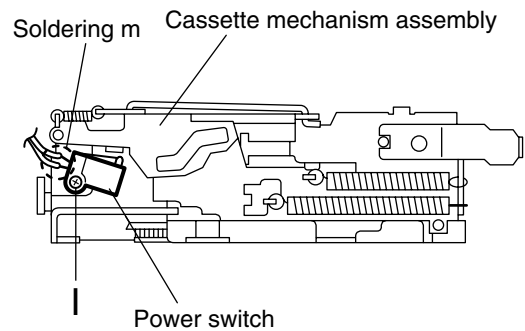

Fig.9
■ Removing the power switch (See Fig.9)